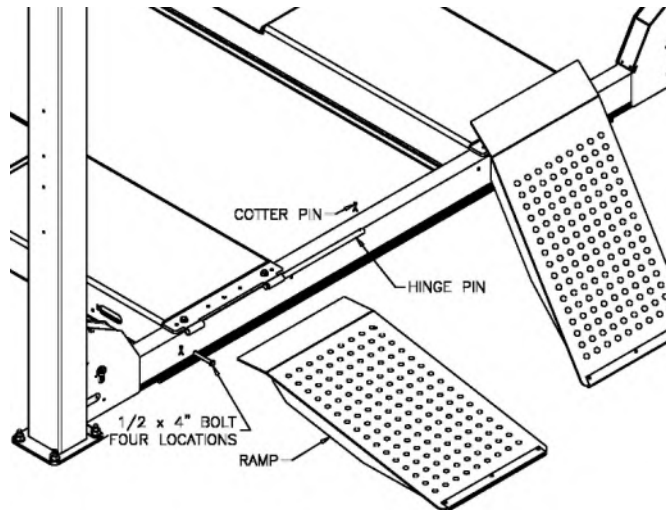

Fig 45 – Warning & Caution Decal
- 101) Install the four 1/2-13 x 4" bolts through front and rear crossbeam and into the runways. Torque to 60-80 foot pounds. See **Fig 45**
- 102) Assemble each Ramp using the hinge pins and cotter pins. See **Fig 45**.